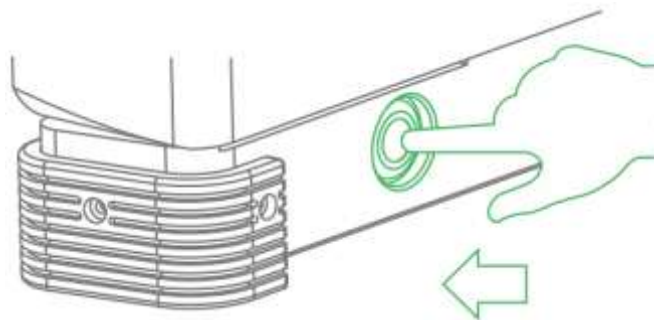

Figure 3-23
Step 2 Short press the image transmission button and the built-in red indicator light is on, as shown in Figure 3-23.